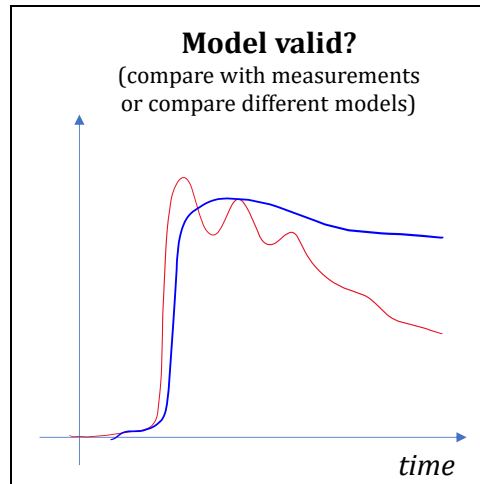

Figure 1-3: A typical diagram to judge the model validity.
- Since you do not have any measurement data, your judgement must be based on your intuition/experience. You can at least compare it with the handed-out model, without the added phenomena. For this it is useful to plot one (or some) variables from the model without and with added phenomena, see Figure 1-3. Interesting variables to plot could be vehicle longitudinal velocity and acceleration. Maybe also tyre longitudinal and vertical force.
- A **plot with two curves** of a variable as function of time, one curve with the original model and one with the model with added phenomena, something like Figure 1-3.